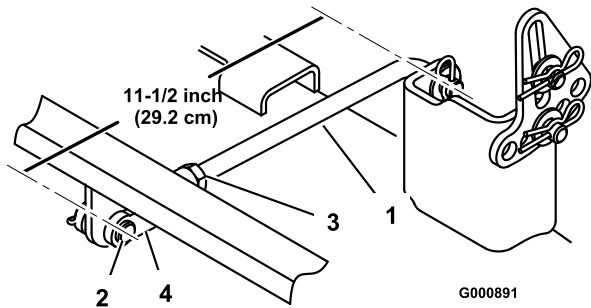
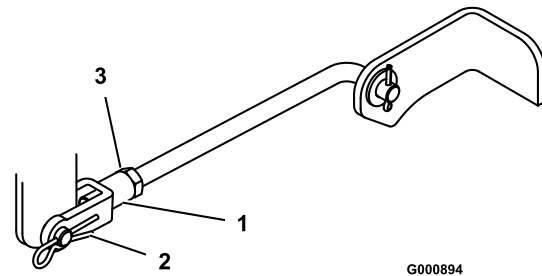

Figure 47
Figure 49
6. Measure the length of the rear trunion rod (Figure 47). If the rod length is not 11-1/2 inch (29.2 cm), remove the clevis pin and cotter pin from the end of the rod (Figure 47), loosen the jam nut, and turn the yoke until the 11-1/2 inch (29.3 cm) dimension is obtained.
10. To adjust the front-to-rear blade slope, remove the hairpin cotter from the front trunion yokes and loosen the jam nuts (Figure 49).
11. Rotate the yokes on the rods to change the adjustment (Figure 49). To raise the front of the mower, tighten the yokes (shorten the rods). To lower the front of the mower, loosen the yokes (lengthen the rods).
13. When the front-to-rear blade slope is correct, tighten the jam nuts (Figure 47 and Figure 49).